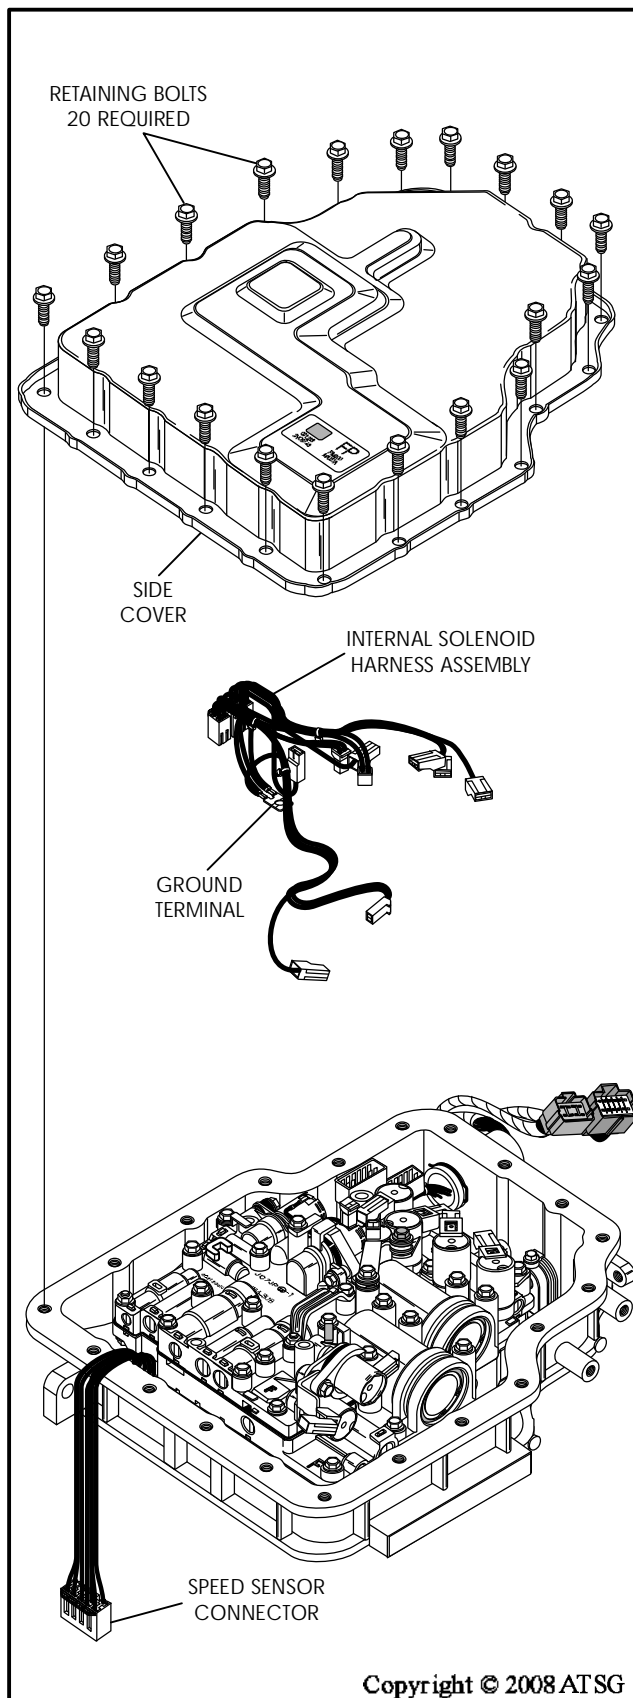
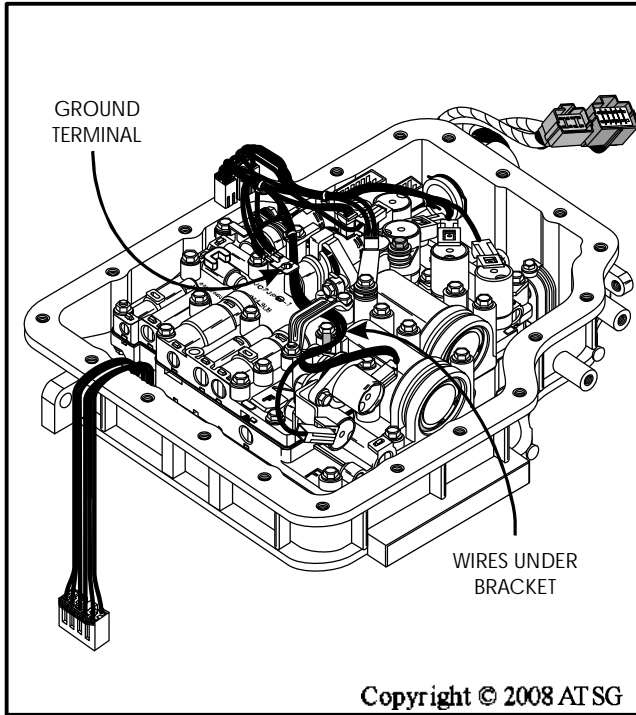

Figure 235
Figure 236
49. Install the internal solenoid harness assembly, as shown in Figure 235, ensuring that you get the wires indicated in Figure 236 under valve body bracket.
54. Install the side cover on the transaxle case, as shown in Figure 235, and install the 20 side cover retaining bolts.